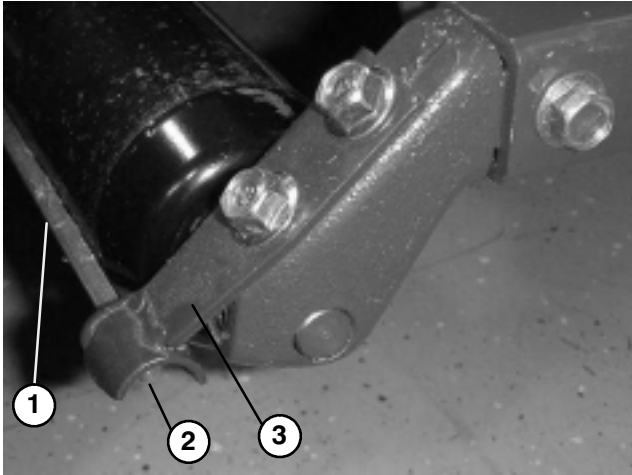

Figure 4
ADJUST ROLLER SCRAPER (Fig. 4)
1. Loosen locknut securing one end of roller scraper rod to mounting bracket (Fig. 4). There should be approximately .005 – .020" end play in loosened rod.